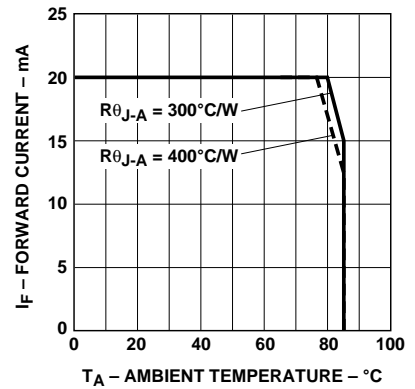

Figure 4. Maximum DC Current vs. Ambient Temperature.
- Derate linearly as shown in Figure 4 for temperatures above  $25^\circ\text{C}$ .